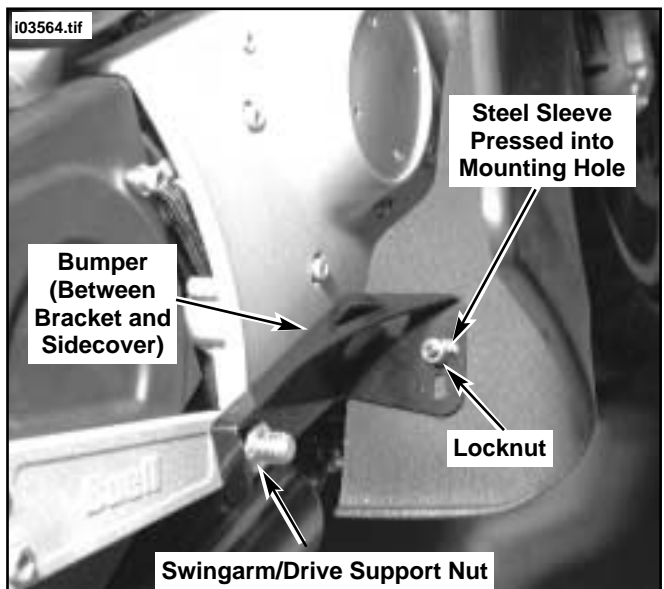

Figure 2. Install New Fairing Lower Bracket Hardware
5. See Figure 2 and Service Parts Page Illustration. Loosely attach lower bracket to right fairing lower as follows:
6. See Figure 2. Slide the large hole in lower bracket over the Swingarm/Drive Support stud and re-install support nut. Finger tighten only, allowing enough play so lower bracket can be repositioned.
- Refer to Figure 2. Hold lower mounting bracket in place (to prevent rotating) and tighten swingarm/drive support nut to 30-35 ft-lbs (41-47 Nm).